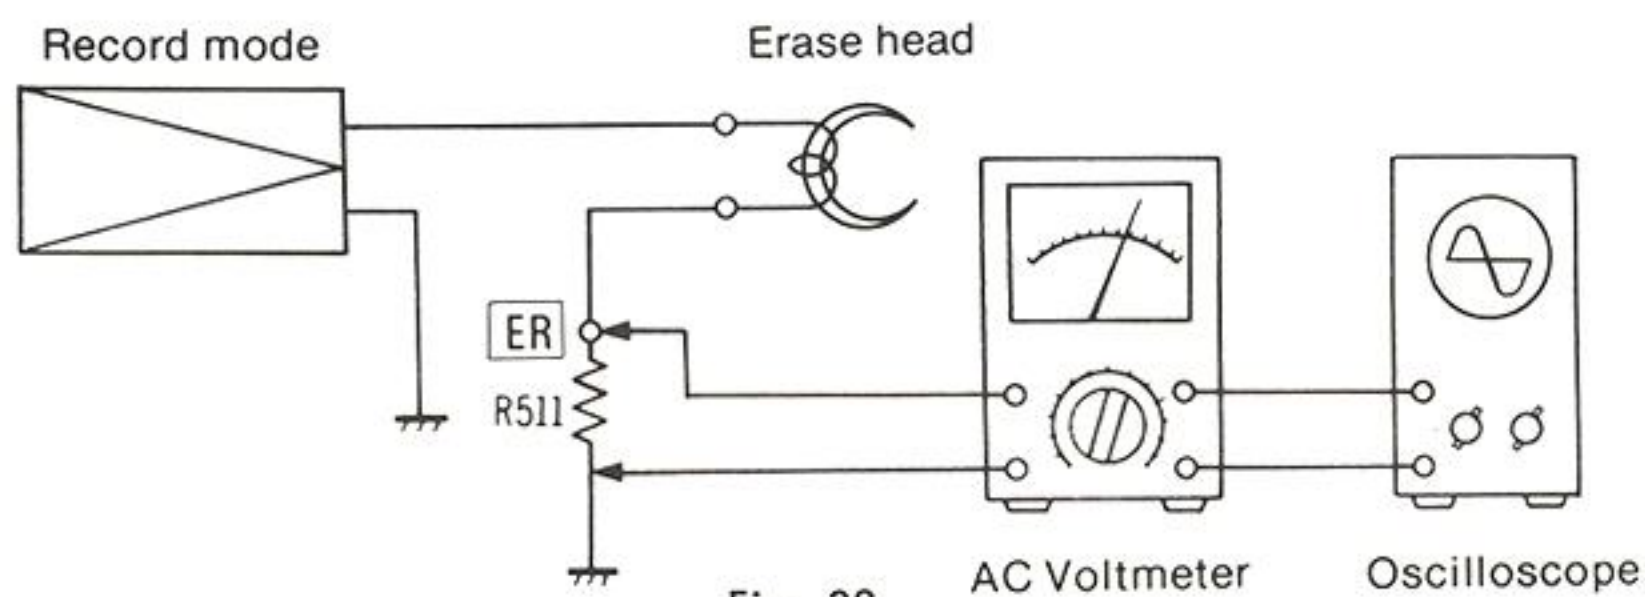
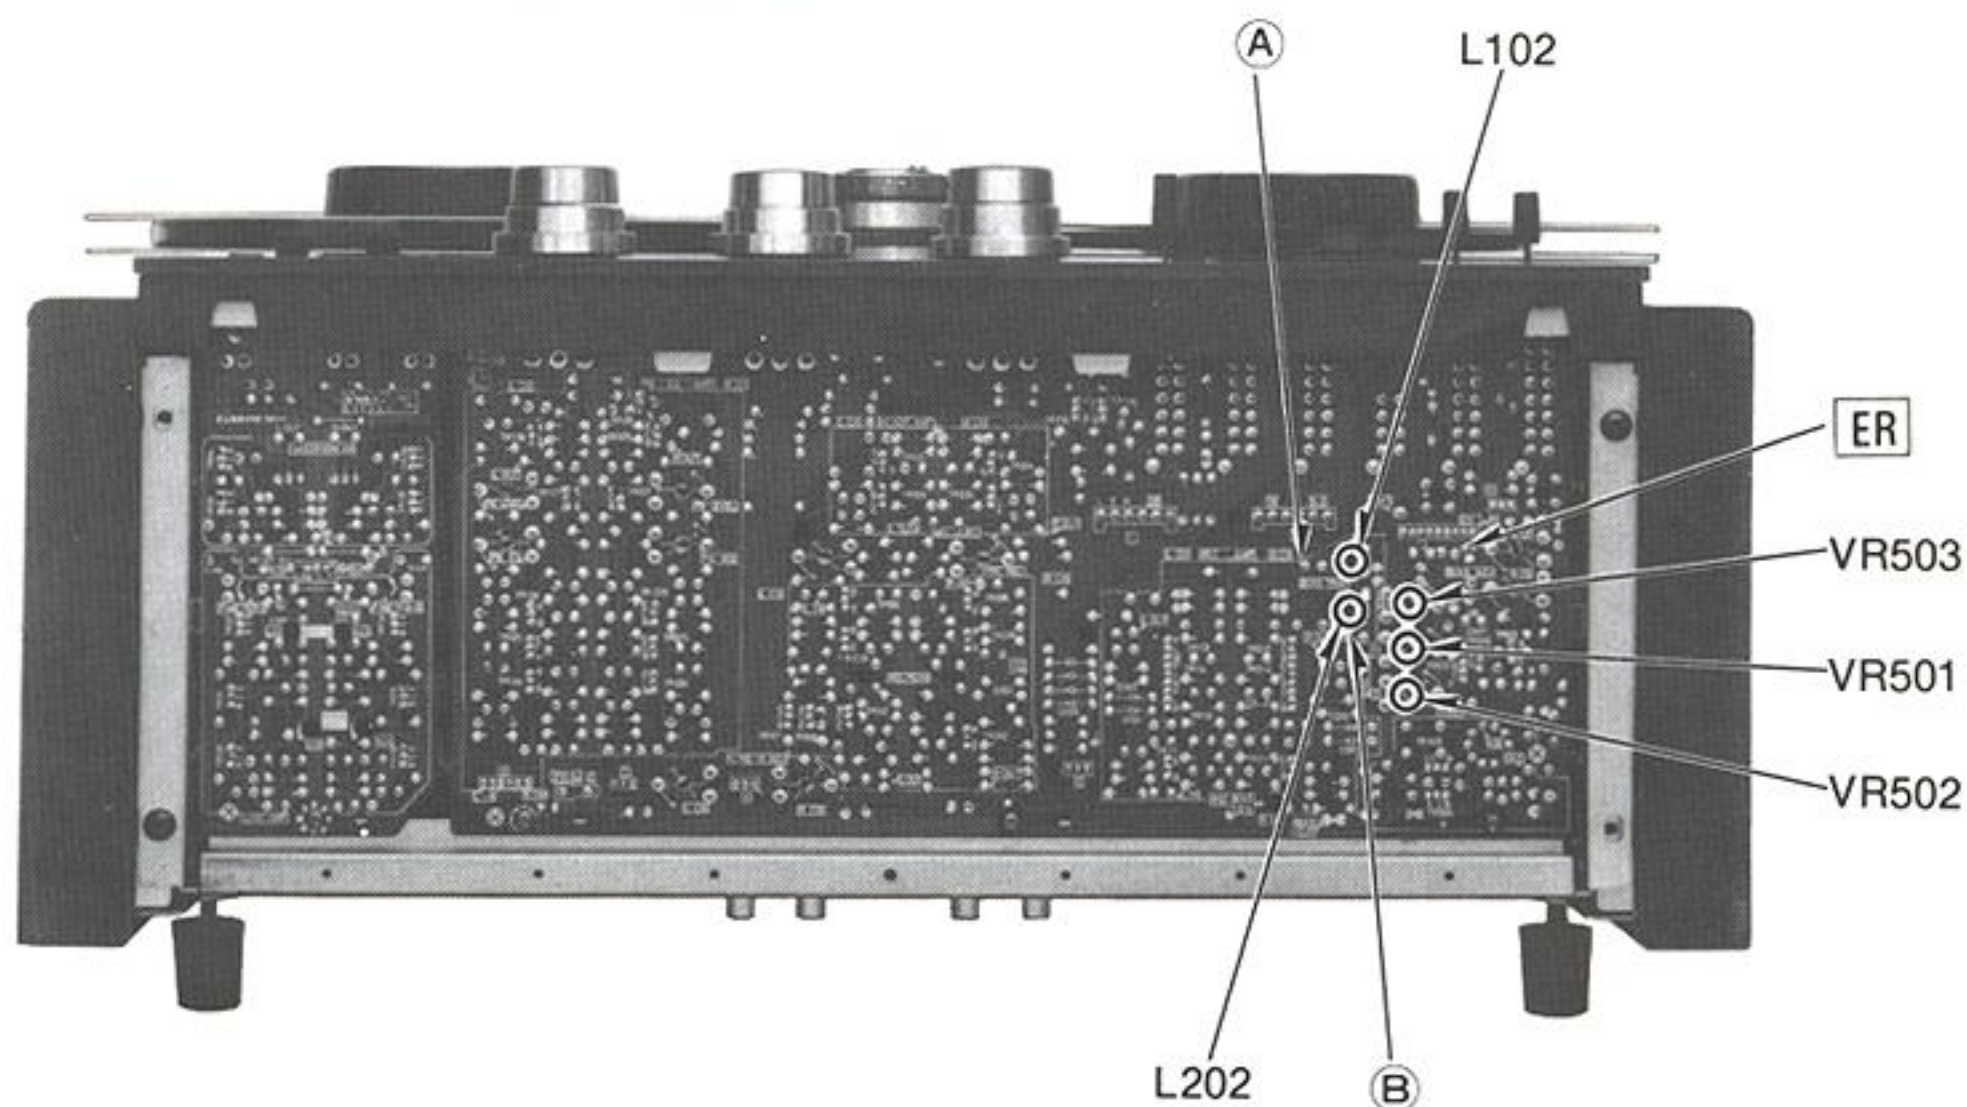

Fig. 38
Fig. 39
Erase current	1. Test equipment connections are shown in fig. 38. 2. Set the Line-in level control to minimum position. 3. Set the bias selector to "1" position. 4. Set the tape speed selector to "38" position. 5. Set the recording mode selector to "ON" (L-CH) and "OFF" (R-CH). 6. Place unit into recording mode. 7. Measure voltage at point (A) and then calculate erase current by formula below. $\text{Erase current} = \frac{\text{Value read on VTVM (V)}}{1 (\Omega)}$ Standard value: Bias selector "1" position: around 65 mA 8. Then set the recording mode selectors to "OFF" (L-CH) and (R-CH), and confirm that the above standard value can be obtained. [Adjustment] If the measured value is not satisfied, adjust the erase current adjustment VR, VR501. (See fig. 39.) 9. Next, set the bias selector to the "2" position, and confirm that the standard value shown below can be obtained. Standard value: Bias selector "2" position: around 71 mA [Adjustment] If the measured value is not satisfied, adjust the erase current adjustment VR, VR502. (See fig. 39.)
(See fig. 39.)
5. Measure and adjust bias trap coil L102 (L-CH) to obtain minimum voltage (less than 3V) at point (A).
7. Measure and adjust the bias trap coil L202 (R-CH) to obtain minimum voltage (less than 3V) at point (B).
Adjustment parts and test points (A) and (B) are shown in figure 39.